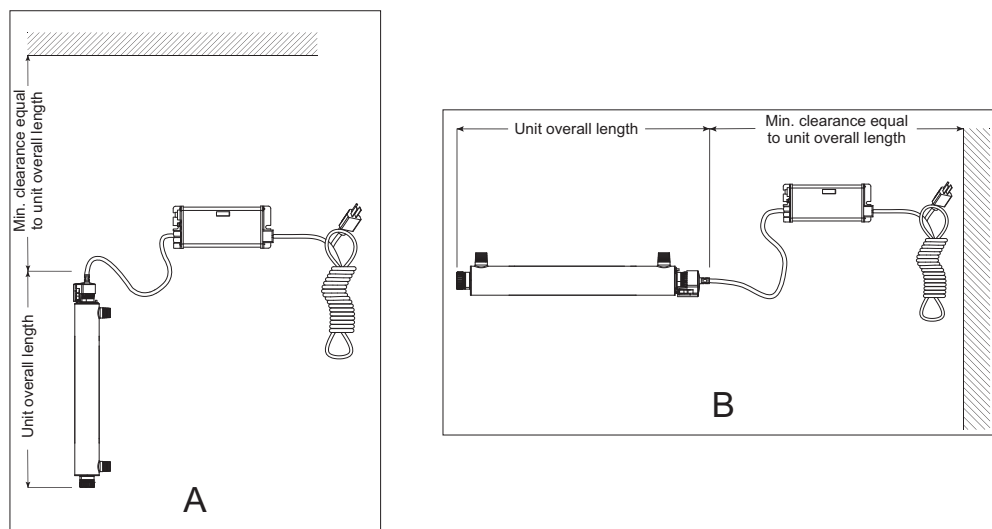

Figure 4 Disinfection Installation - Vertical and Horizontal
2. Select a suitable location for the disinfection system and its related components. As it is recommended to install a GFCI, make sure that this is taken into consideration prior to any installation. The system can either be installed vertically (inlet port at the bottom) as shown in Figure 4 A, or horizontally as shown in Figure 4 B. However, the vertical installation is the most preferred method. When selecting a mounting location, leave enough space to allow the removal of the UV lamp and/or quartz sleeve (typically leave a space equal to the size of the UV chamber itself).